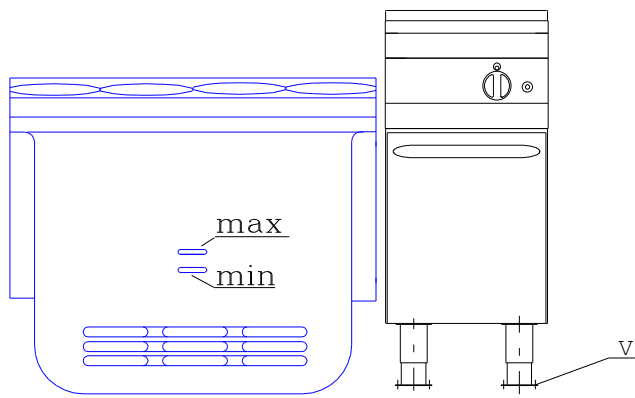

Fig.4 - Abb. 4
-Before switching on the heating, fill the basin with oil until its level is above the minimum mark and below the maximum (fig. 4).